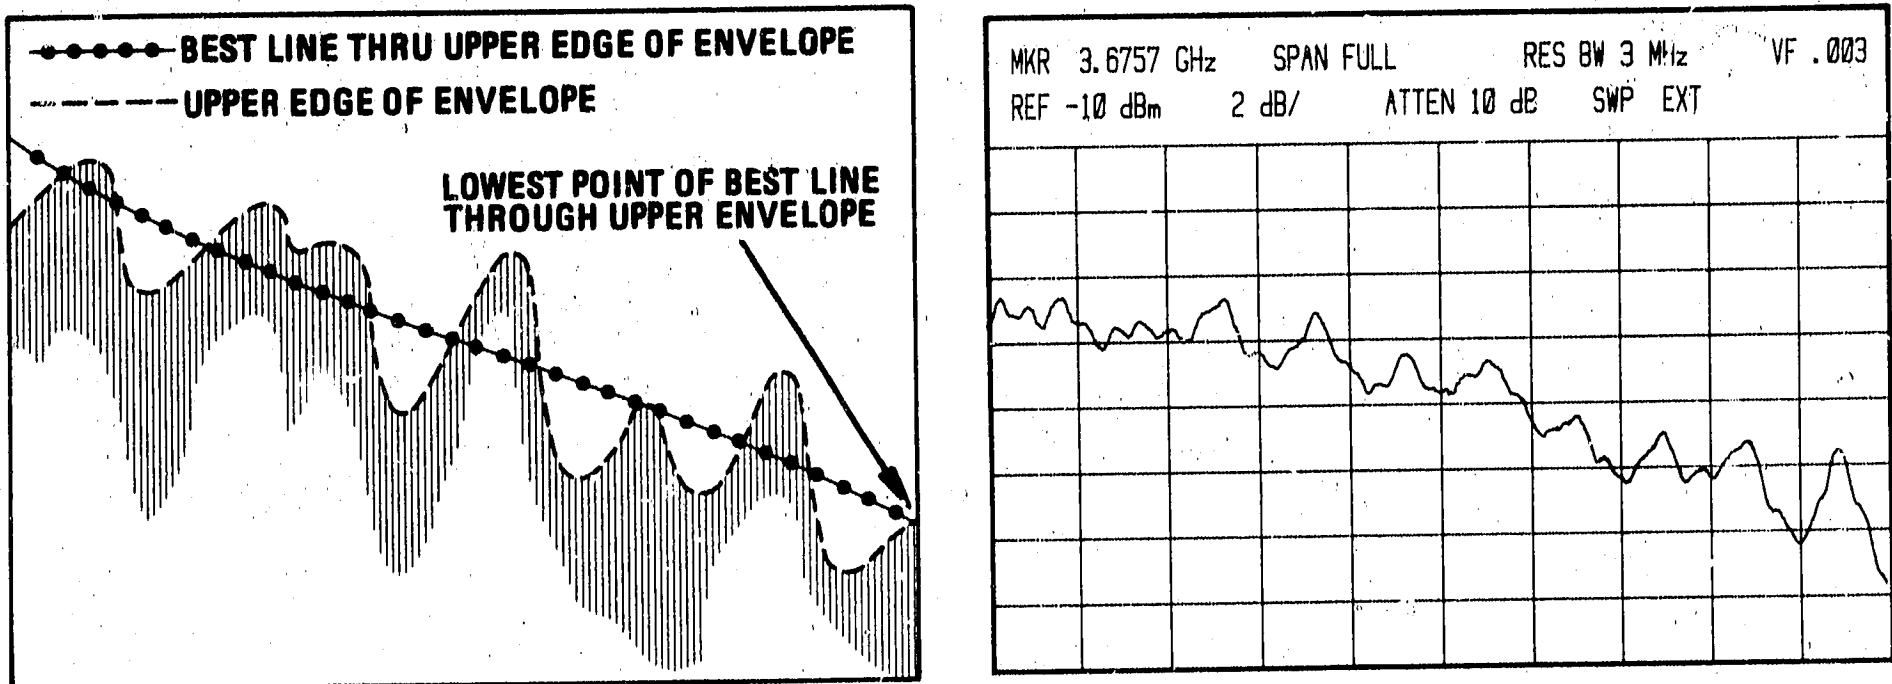

Figure 5-56. Best Line Relative to 1 kHz Modulation Envelope
The 'best line,' as used in the following procedures, approximates the median line between the peaks and troughs of the upper edge of the 1 kHz modulation envelope. The best line is illustrated in Figure 5-56.
8. Note best line as illustrated in Figure 5-56. Adjust REFERENCE LEVEL controls to set lowest point of that line on center horizontal graticule line. This point is used as a reference in checking for approximately same power level in frequency bands 5.8-12.9 GHz, 8.5-18 GHz, and 10.5-22 GHz (steps 9 through 14).